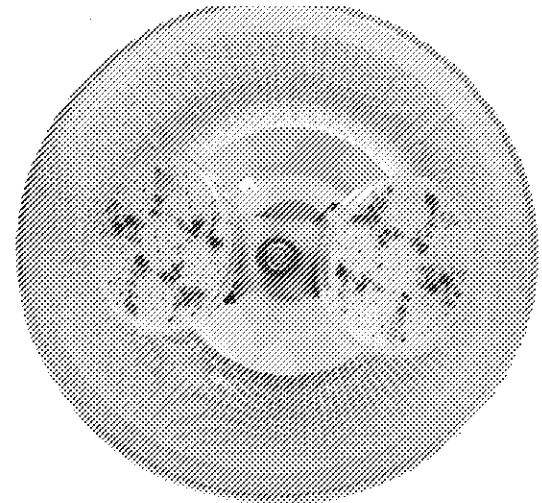

Figure 2
4. Install the LED Engines with threaded rod through the bottom of the reflector. See Figure 2